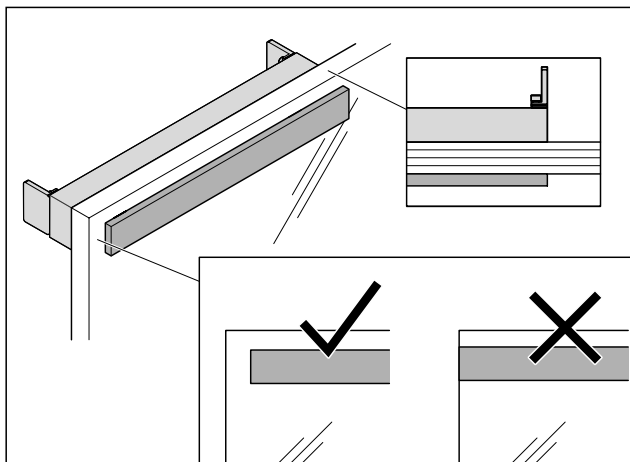

Abb. 12 Align the screw-on plate and the counter-plate on the glass door
- Align the screw-on plate and the counter-plate on the glass door (Abb. 12).